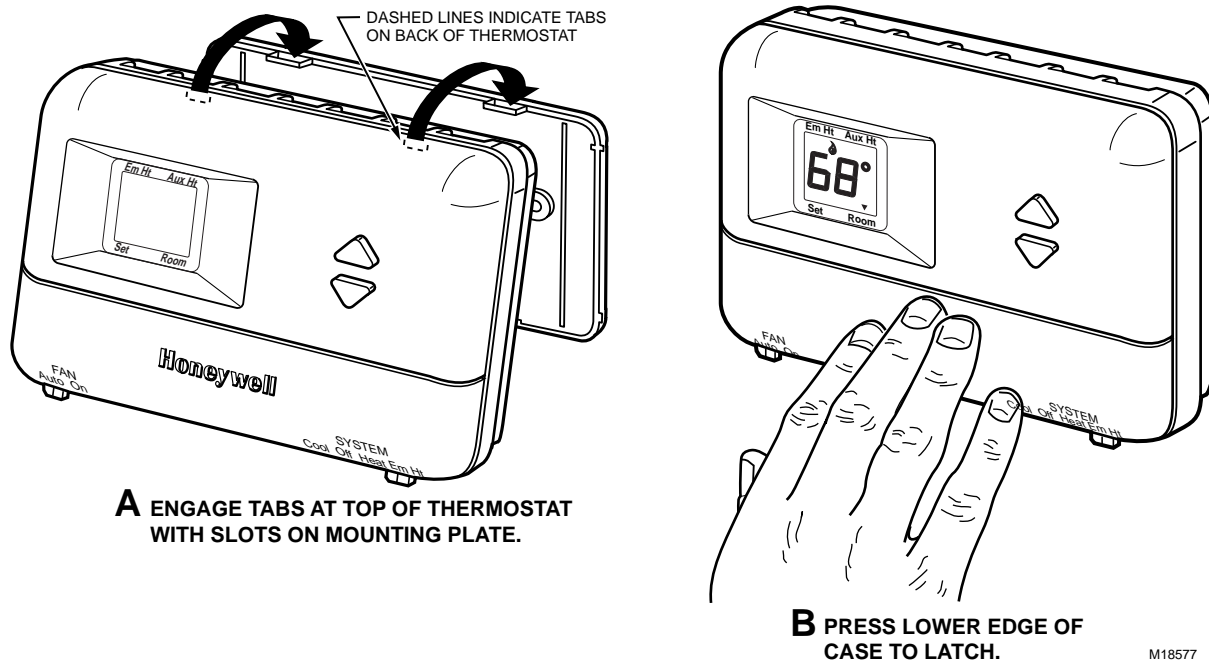

Fig. 7. Mounting thermostat to wallplate.
2. Swing down the thermostat and press the lower edge of the thermostat onto the wallplate to latch. See Fig. 7.